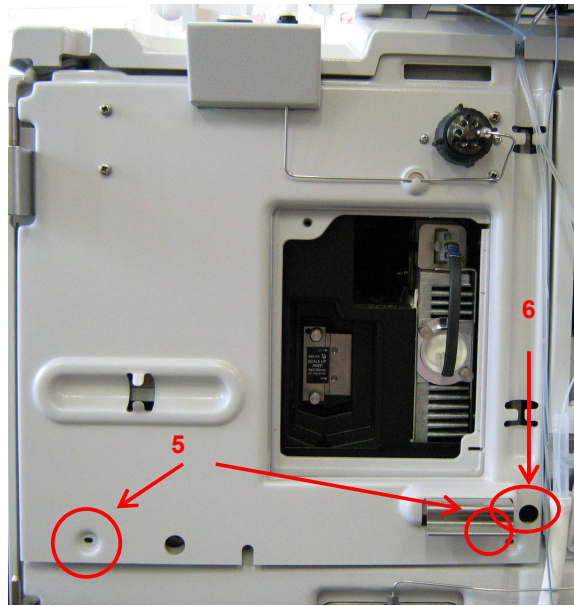

Figure 11: Shows the new manual injector panel fitted. Note the screw holes and the drain pipe exit hole that need to be aligned.
12. Once the ribbon cable loom is connected to the instrument insert the panel into the 940-LC instrument by carefully slipping the top part of the panel underneath top cover of the box. Carefully slot the panel over the metal strike plate and line the holes at the bottom of the panel up for the screws to be inserted through (**5**). Be sure to pull out the drain pipe from the absorbance detector through the drain hole (**6**) in the bottom left corner of the panel (circled in *Figure 11*).
13. Align the screw holes on the panel with the instrument screw holes (circled in *Figure 11*). Screw the panel in using the previously removed screws.